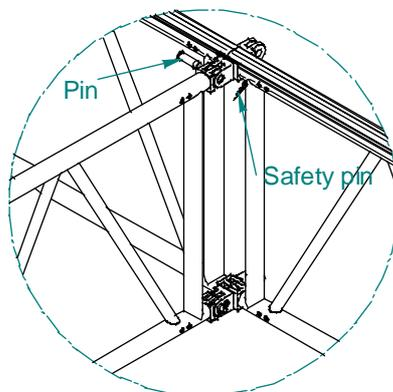

Fig. 4
1. Connect the forked ends of the orthogonally directed trusses as illustrated in figure 4. Whenever you have difficulty with this insertion procedure, check that the directional arrangement and the alignment of the forks is correct.